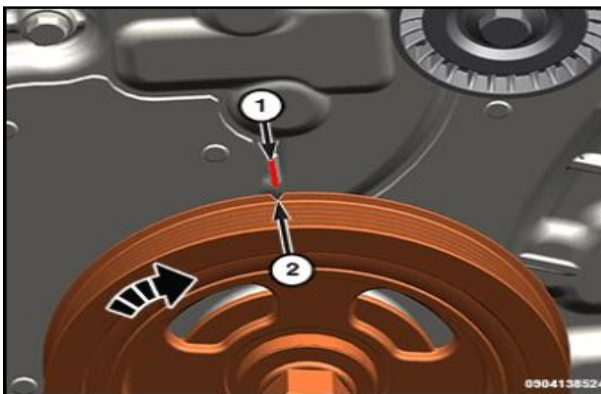

Figure 17 – Crank Timing Mark
- 48. Rotate the crankshaft clockwise (as viewed from the front). When the number one cylinder intake and exhaust valves are closed, align the timing cover mark with the damper notch to place the number one cylinder piston at Top-Dead-Center (TDC) on the compression stroke (Figure 17).